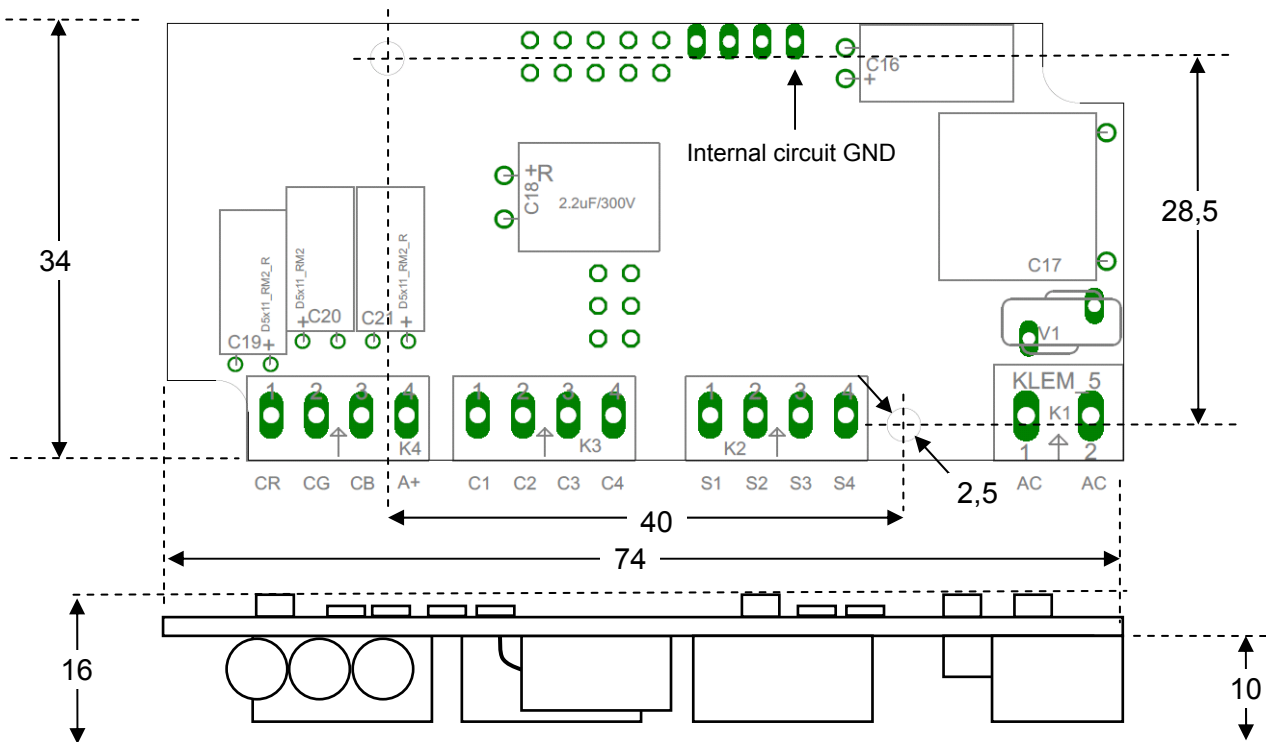

Fig. 4: Board version and pin out (dimensions in mm)
- 13) Peak voltage for both M/S and M-GND terminal, referred to internal circuit ground (see board dimensions drawing, fig.4).